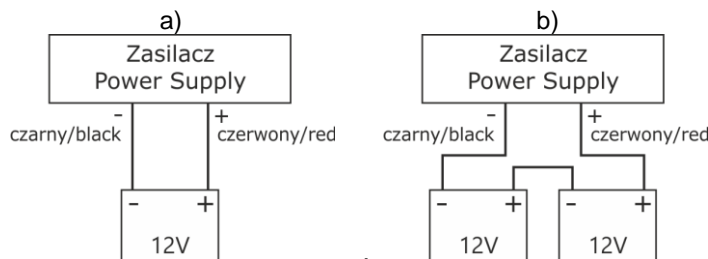

Fig. 4 Connecting batteries depending on voltage version of power supply:
6. Mount the battery in the battery compartment of the enclosure. Connect the batteries with the PSU paying special attention to the correct polarity and type of connections (Fig.4):